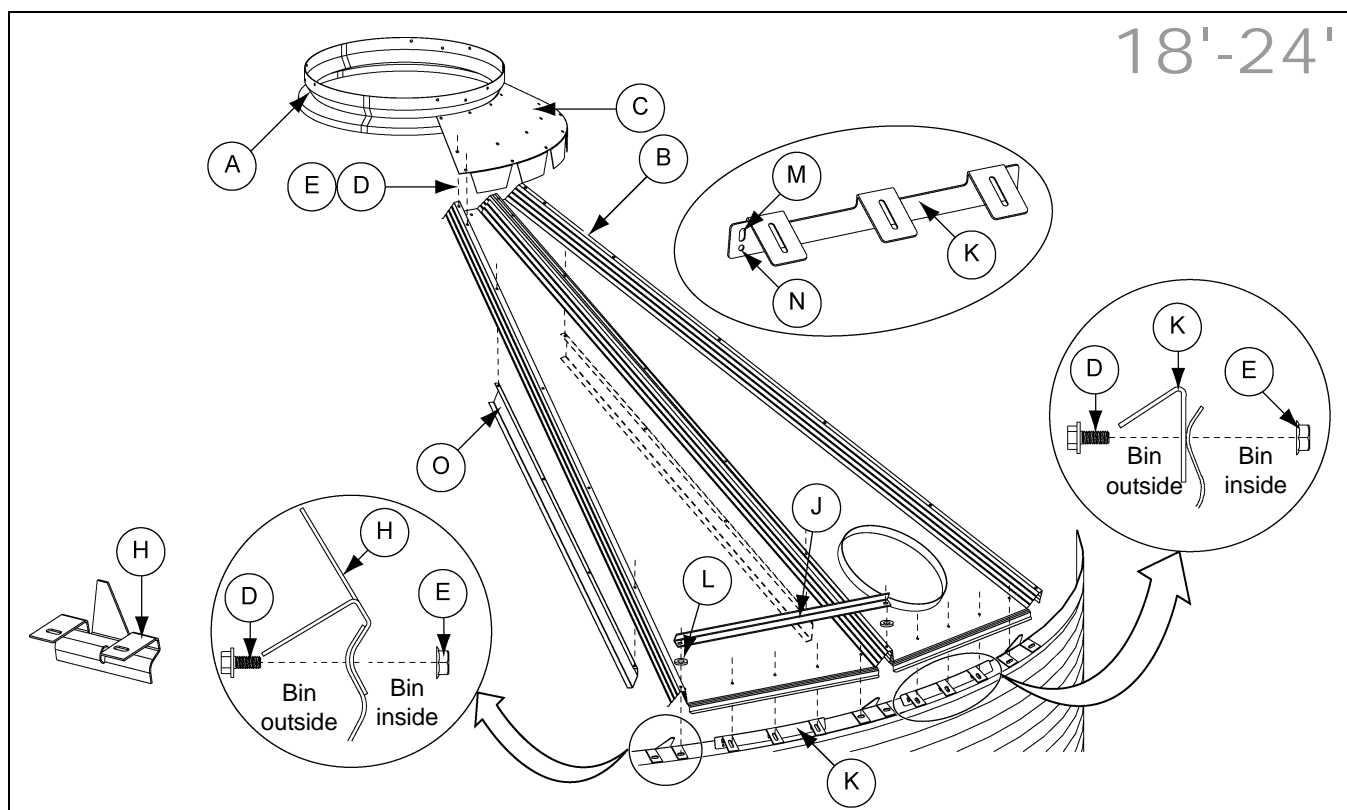

Figure 9H Roof Panel Assembly (18'-24' Diameter Bins)
NOTE: For 18'-24' diameter bins, an additional roof channel (O) must be installed under the ribs of the roof panel (B) where the roof steps (J) are to be installed. Make sure to start roof channel (O) assembly from the second hole of bottom rib in the roof panel (B). (See Figure 9H.)